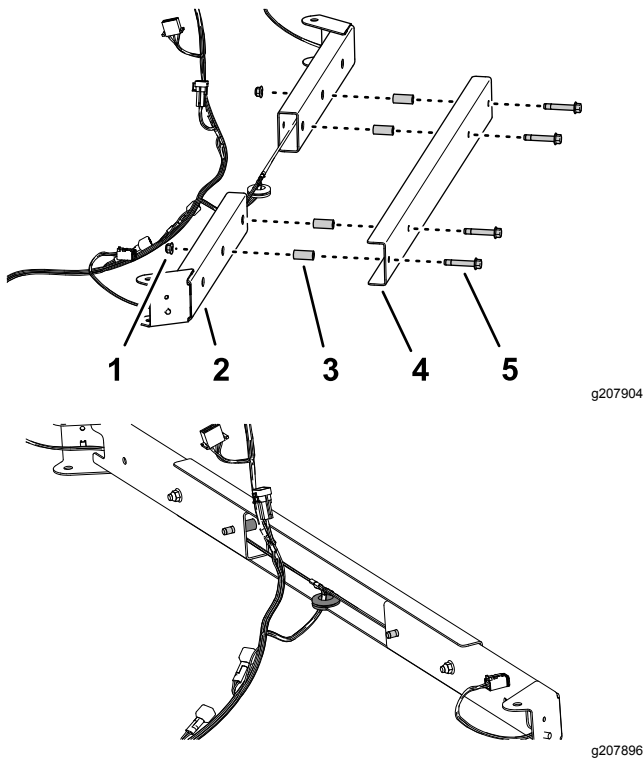

Figure 11
2. Align the holes in the support channel, spacer, and worklight mount as shown in Figure 11.
3. Assemble the support channel to the worklight mount (Figure 11) with the 4 flange-head bolts (3/8 x 2-1/4 inches), 4 spacers, and 2 flange locknuts (3/8 inch).
4. Assemble the support channel to the worklight mount (Figure 11) with the 4 flange-head bolts (3/8 x 2-1/4 inches), 4 spacers, and 2 flange locknuts (3/8 inch).
7. Repeat steps 2 through 6 for the worklight mount at the other end of the support channel (Figure 11).